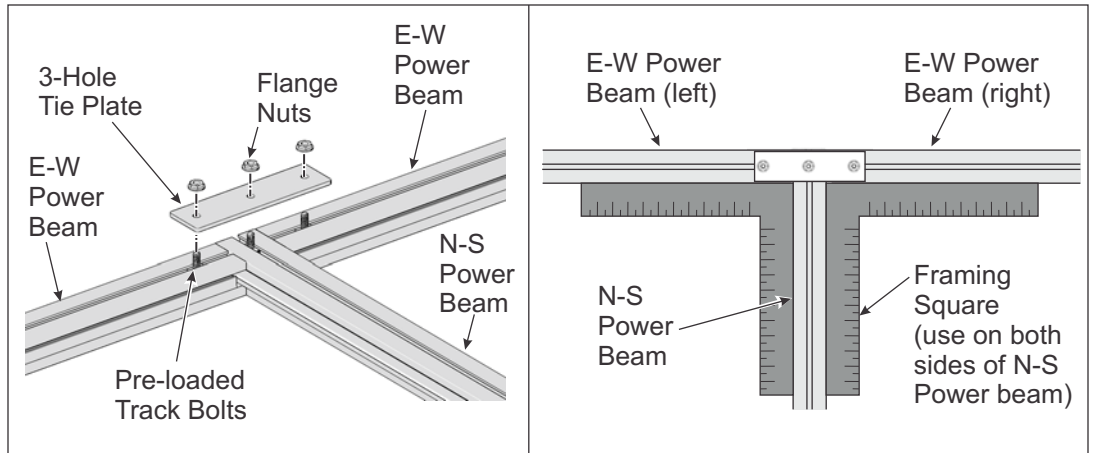

Figure 6-2: Using a 3-Hole Tie Plate on a north Tee-joint
- Install a 3-Hole Tie Plate onto its respective Track Bolts (previously installed in the Power Beams), spanning the joint of the N-S and E-W Power Beams. Install Flange Nuts and finger tighten (See Figure 6-2).